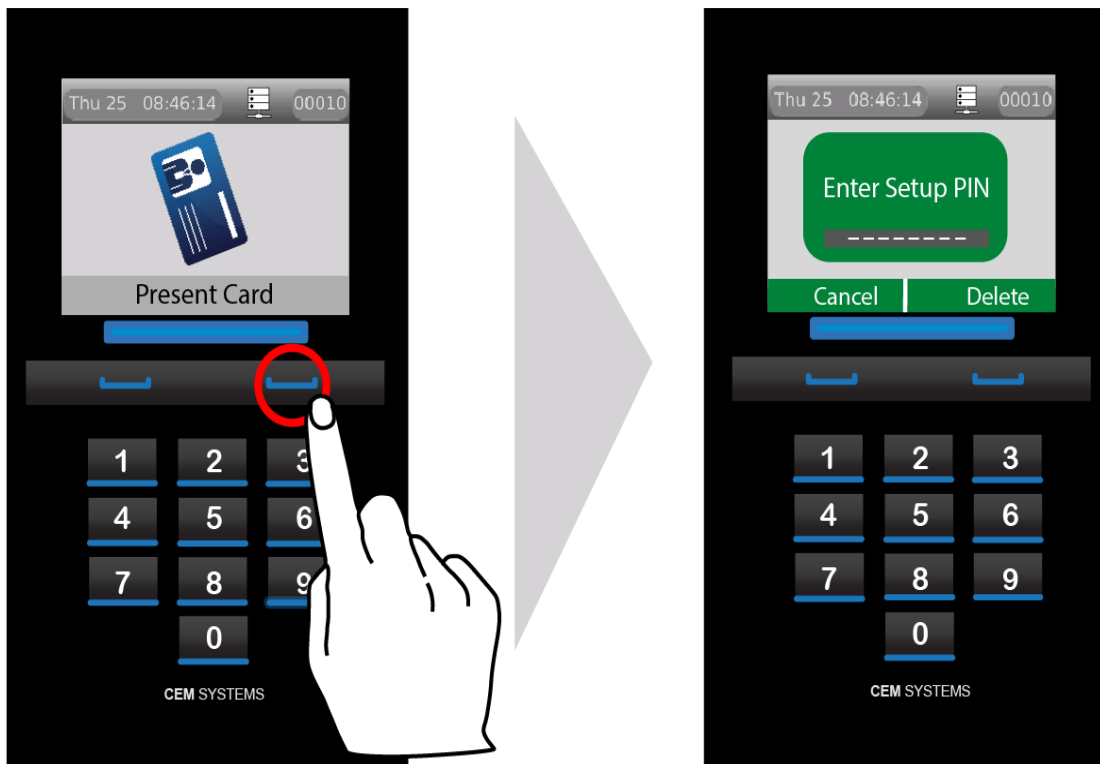

Figure 66 Accessing the configuration menu
- Tap the left function key quickly at least three times. The appears with information on the firmware on the S700 terminal, as shown in *Figure 66* Accessing the configuration menu.